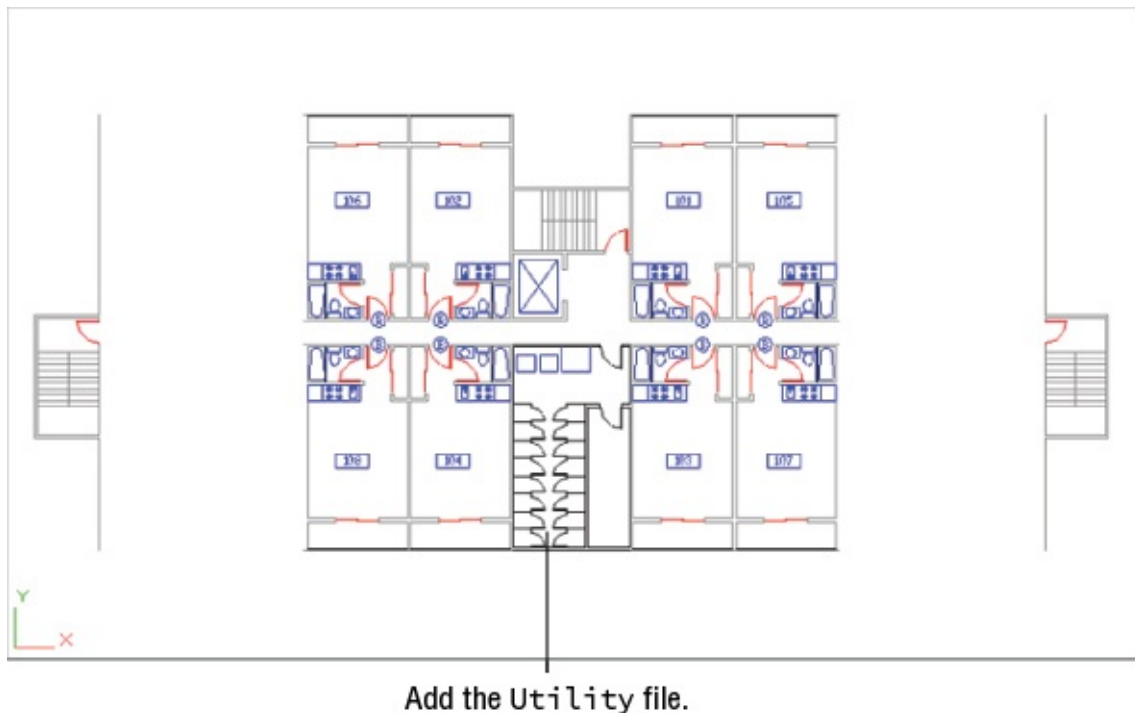

FIGURE 14.9 The utility room inserted
- Click the Insert tool in the Block panel again, and replace the empty room across the hall from the lobby with the utility room (`utility.dwg` or `utility-metric.dwg`) from the Chapter 14 sample files (see Figure 14.9). You may want to make some adjustments to the utility room so that it aligns with the plan.